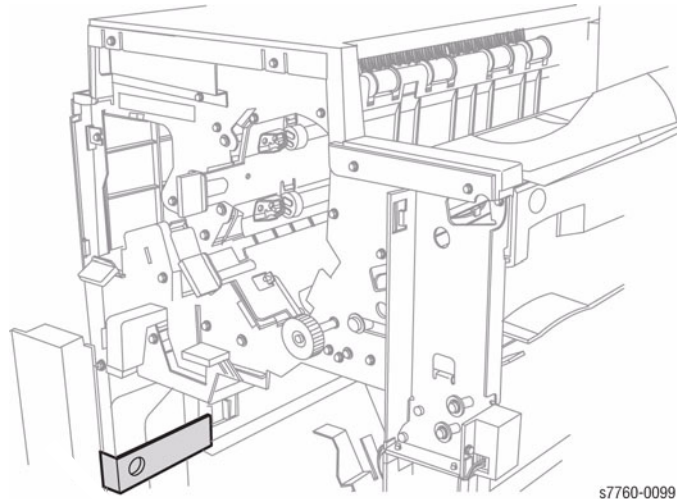

Figure 2 Separating the Finisher from the Printer
4. Separating the Finisher from the Printer (**Figure 2**).